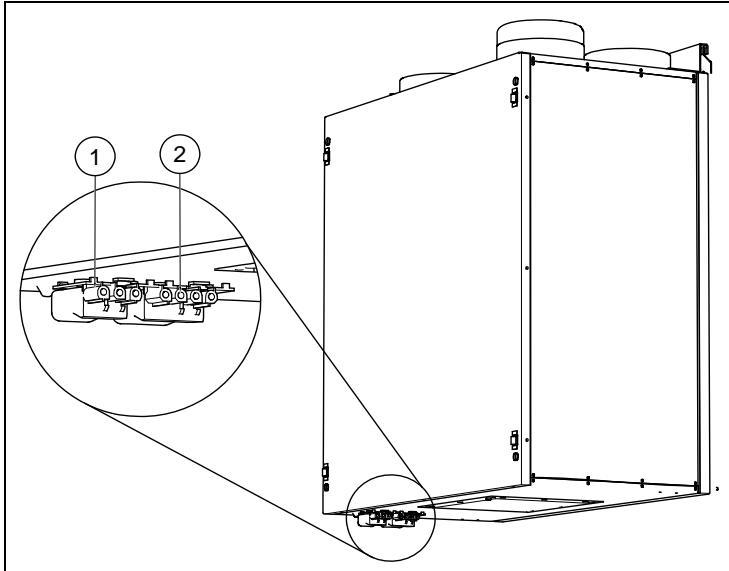

Fig. 10
The VR 300 ECV/B units are supplied with apx. 1m cable and plug for 10A, 230V, single phased earthed connection. The electrical connection to the cooker hood is done through connection plugs (**fig. 10**) situated on the bottom plate of the unit. The 3 pole connection plug (pos. 1, **fig. 10**) is used for the mains supply of the cooker hood light and the 4 pole connection plug is used for the speed control signal. In case a cooker hood is not used and the speed control is done by an external speed regulator the 3 pole connection plug (pos 1, **fig. 10**) is not used.